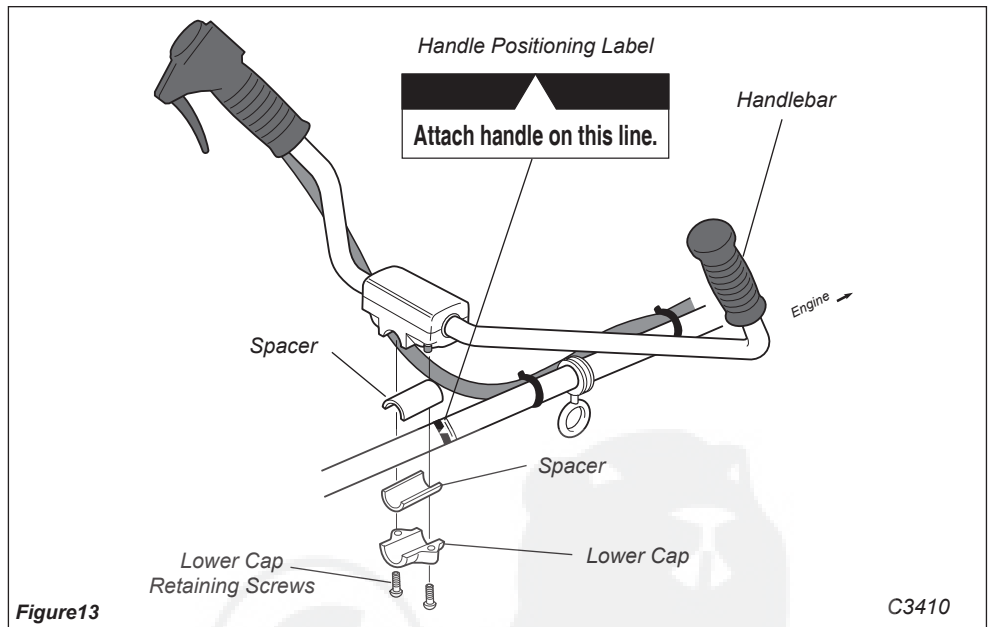

Figure13
1. Use the 4 mm hex wrench to remove the lower cap retaining screws from the handlebar bracket. Remove the cap from the bracket, and note the position of the two spacers installed between the bracket halves. See Figure 13.